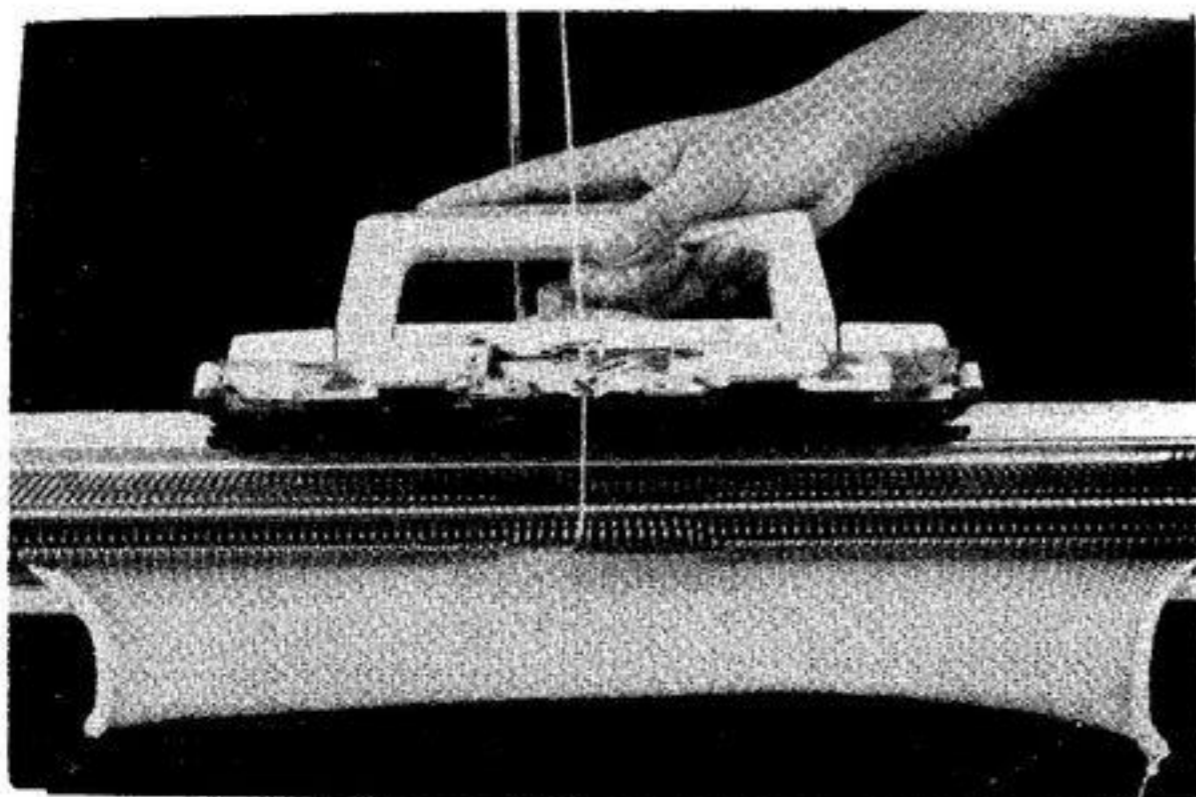

Fig. 68
There are two methods of moving the carriage across working needles without affecting the knitting, (1) by first turning the leading Pattern Control Knob to "S"; or (2) by lifting the Carriage slightly at the front as shown in Figs. 68 and 69.